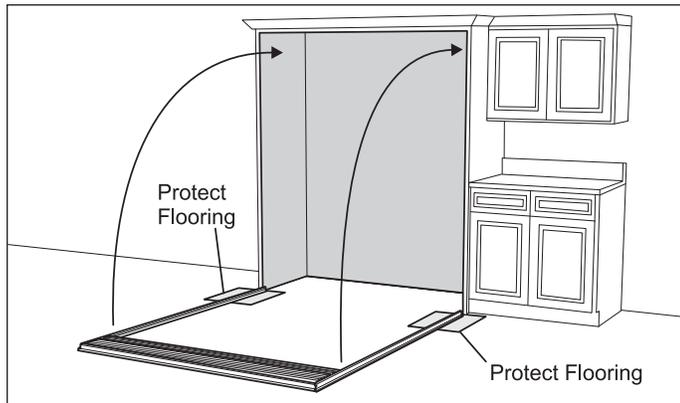

**Figure 2-13.**
5. Join each side trim (B and C) to the top trim (A). Make sure the ends of the Grill Assembly are captured in the channel of each side trim, then tape in place. Gently secure brackets (K) to top trim (A) by tightening set screws (L), only until snug to avoid dimpling the trim face. DO NOT overtighten. (See Figure 2-13).